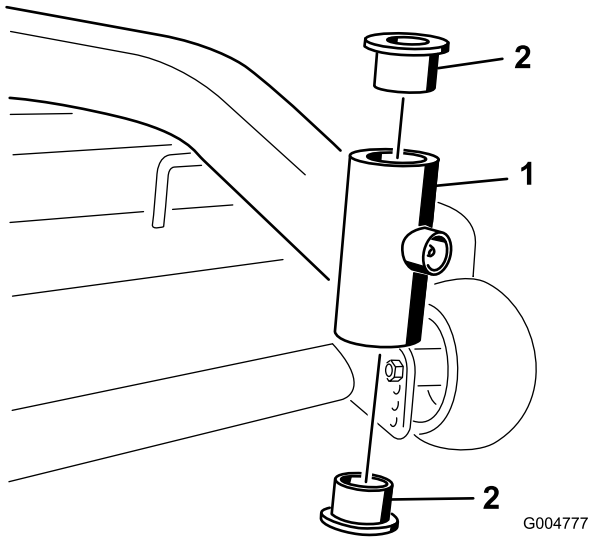

Figure 44
- Insert a pin punch into the mounting tube and carefully drive out the bushings (Figure 44). Clean the inside of the mounting tube.